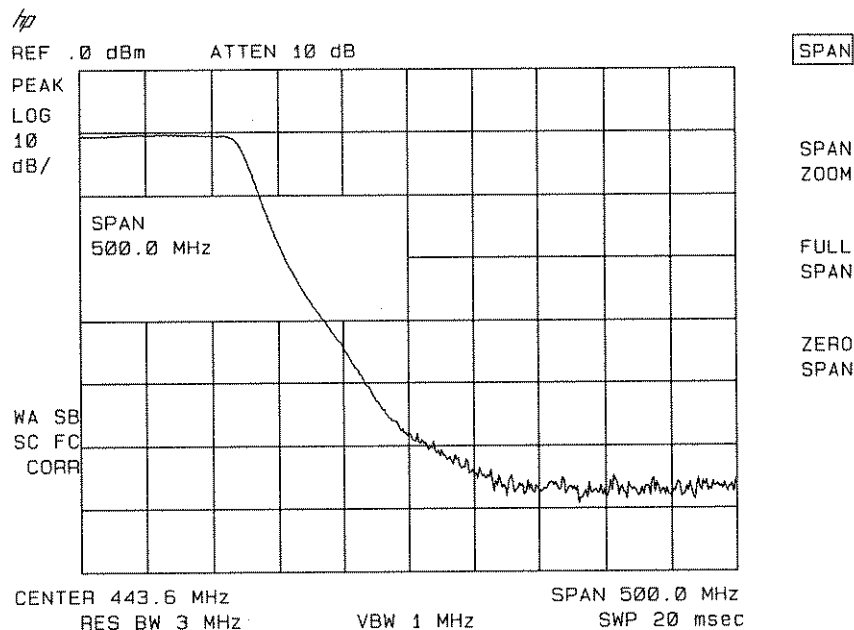

Figure 6-35. Spectrum Analyzer Settings According to the Measurement Requirement
5. Since we are only interested in the rejection of the low-pass filter, tune the spectrum analyzer's center frequency so that the rolloff of the filter comprises the majority of the trace on the display (see Figure 6-35).